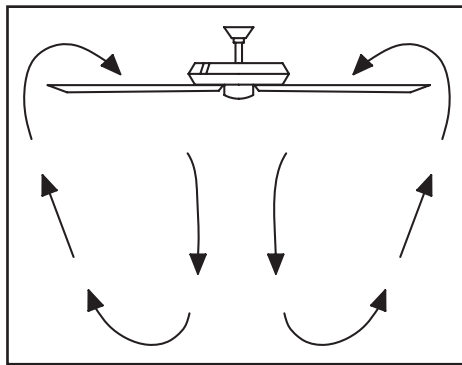

Figure 9
**Warm weather** - (Forward) A downward air flow creates a cooling effect (Figure 9). This allows you to set your air on a higher setting without affecting your comfort.